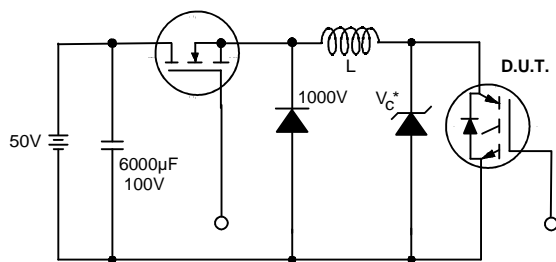

Fig. 19 - Clamped Inductive Load Test Circuit
- ② $V_{CC}=80\%(V_{CES})$, $V_{GE}=20V$, $L=10\mu H$, $R_G = 23\Omega$ (figure 19).
- ③ Pulse width $\leq 80\mu s$; duty factor $\leq 0.1\%$.
- ④ Pulse width $5.0\mu s$, single shot.
- ⑤ Energy losses include "tail" and diode reverse recovery, using Diode FD100H06A5.